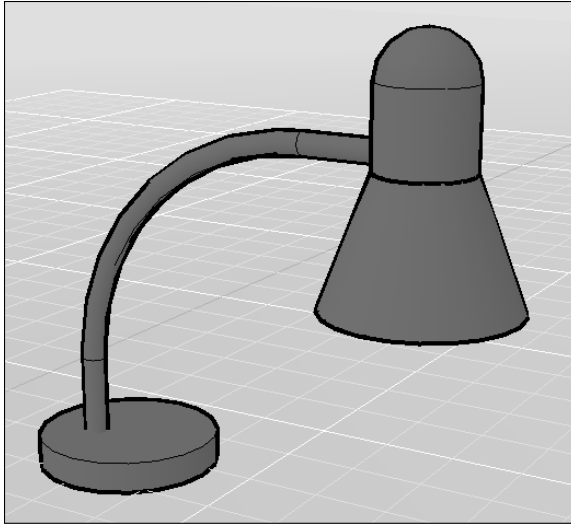

**Figure 24-9:** The desk lamp.
9. Save your drawing. It should look like Figure 24-9.
7. Save your drawing. You can look back to Figure 24-9 to see what the lamp looks like.